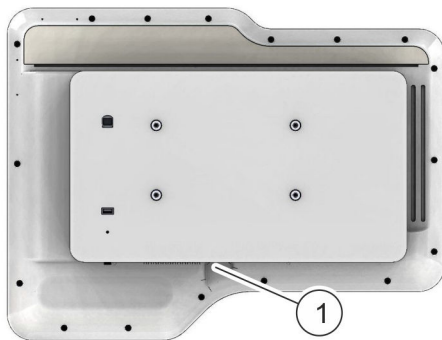

Fig. 4: On/off switch on the terminal
1. ➤ Press the on/off switch (Fig. 4/1) to switch the terminal on.
3. ➤ Press the on/off switch (Fig. 4/1) to switch the terminal off.